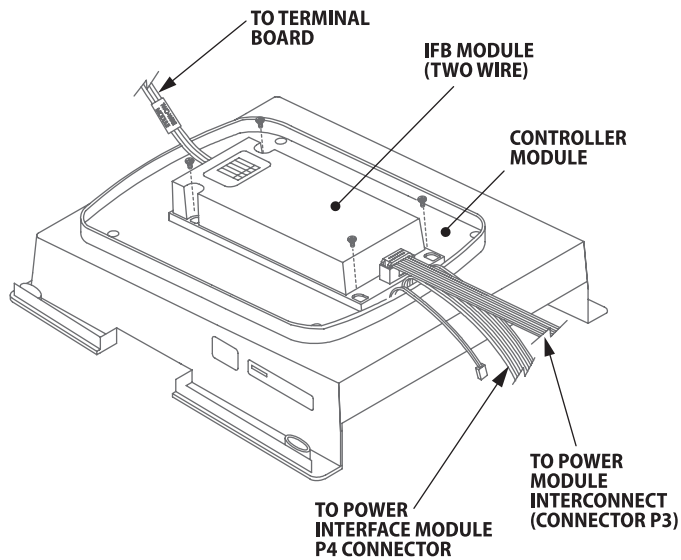

Figure 7
2. Use four #4-40 machine screws to attach the MAXI 2-Wire module to the bottom of the control module, as shown in Figure 7.